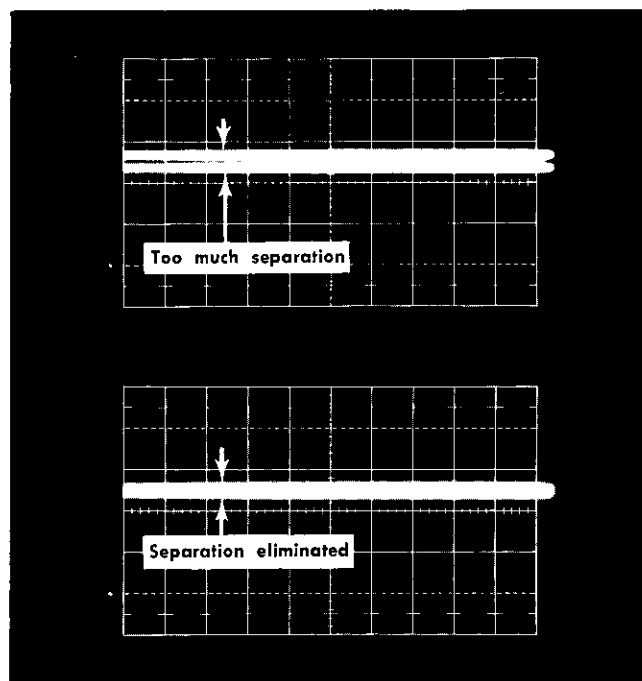

Fig. 5-5. Noise waveform, step 8. Sweep rate 5 $\mu\text{s}/\text{div}$; deflection factor 1 mV/div.
- GR 5× attenuator (item 17)
- Two GR 10× attenuators (item 18)
h. Decrease the + TRANSITION AMPLITUDE to a point where the dark line between the two traces is just eliminated. Use Fig. 5-5 as a guide. (The desired presentation is obtained when a point is reached where doubt exists as to whether the dark line is or is not eliminated.)